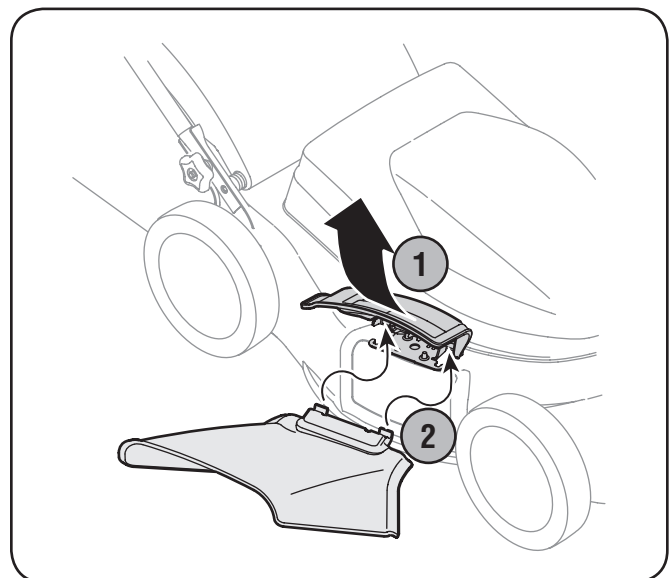

Figure 3-6
- Slide chute hooks under hinge pin on mulching plug assembly. Lower mulching plug. See Fig. 3-6.